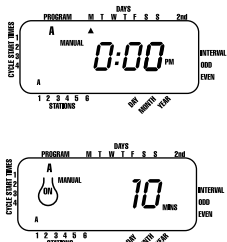

FIGURE 11: Manual Watering in Either the A or B Program Only
- To activate stations assigned watering duration for the A program only, press the **MANUAL** key, followed by the **NEXT** key. This will activate stations with assigned watering durations in the A program only. To initiate this semi-automatic watering, press **ENTER** [See Figure 11].